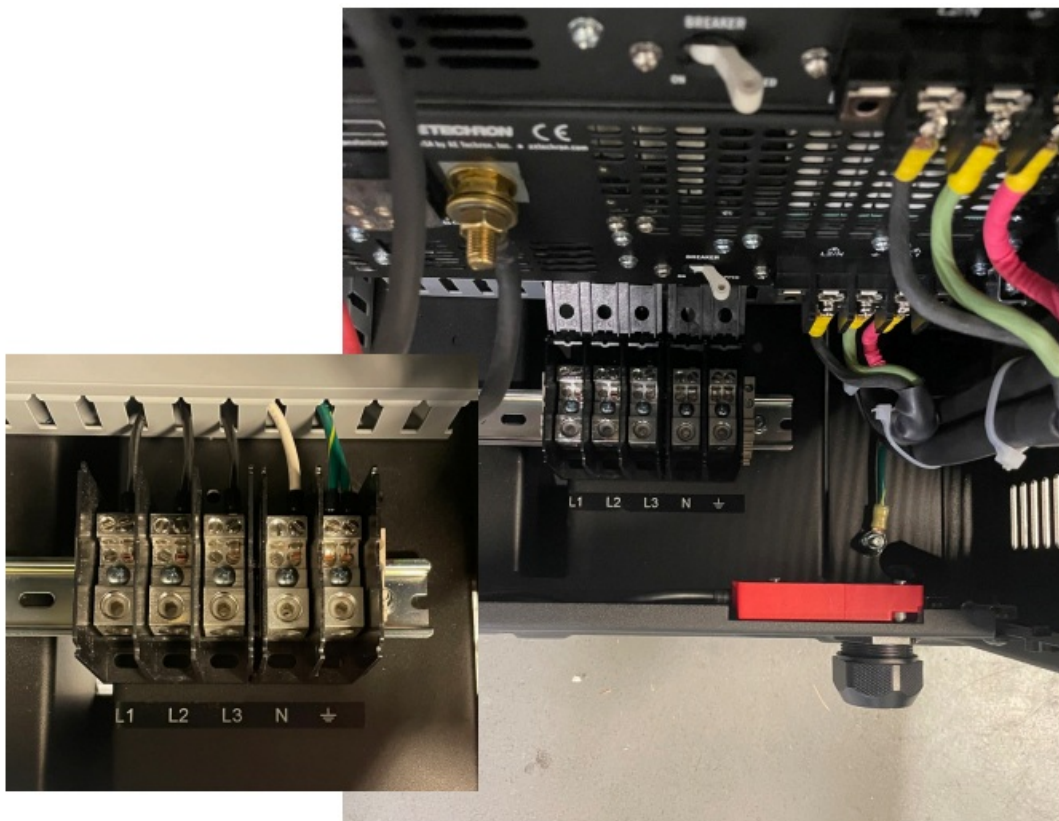

Figure 2.12 – Location of AC Mains Barrier Strip with labeling detail (inset)
3. Open the access door on the back of the amplifier and locate the fuse and AC inlet panel near the bottom of the amplifier. Locate the power block, which is mounted behind the fuse and AC inlet panel (see Figure 2.12).